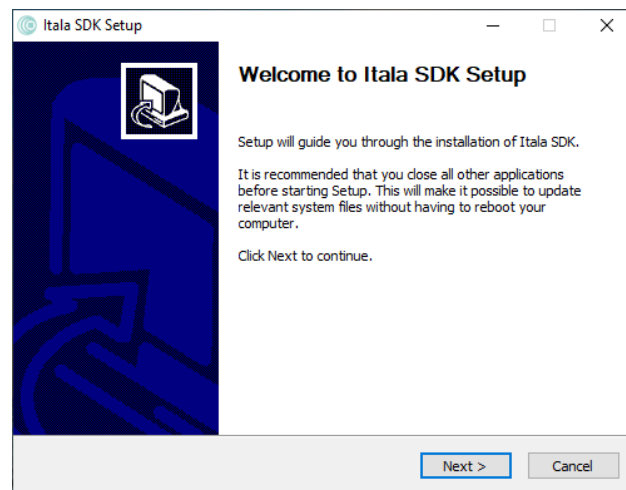

Figure 8: Itala SDK setup window.
2. The Itala SDK setup window is displayed: make sure to follow the instructions listed (Fig.8).